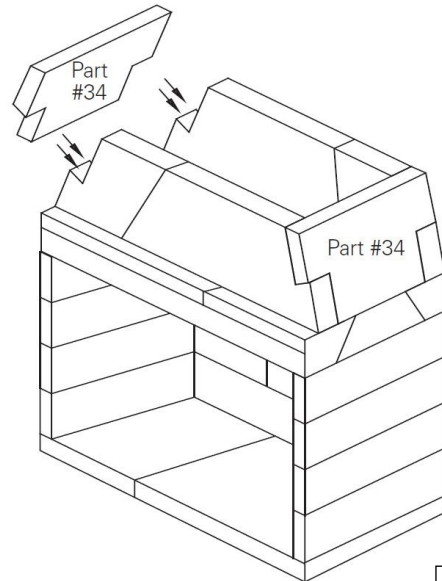

FIGURE 23
8. Position the smoke dome's sloping sidewalls at each end of the smoke dome components. The sloping sidewalls fit in between the front and rear smoke dome components and also fit into the haunches at the ends of the front and rear smoke dome components. Earthcore adhesive all contact surfaces thoroughly. The smoke dome sloping sidewalls have a beveled bottom edge so that they will sit tight onto the flat top of the damper beam assembly. **(Figure 23)**